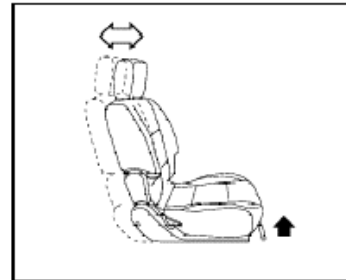

Figure 1-1
- Manually adjusted seats are identified by the manual levers used to adjust the seat forward, backward, and recline (see Figures 1-1 and 1-2).